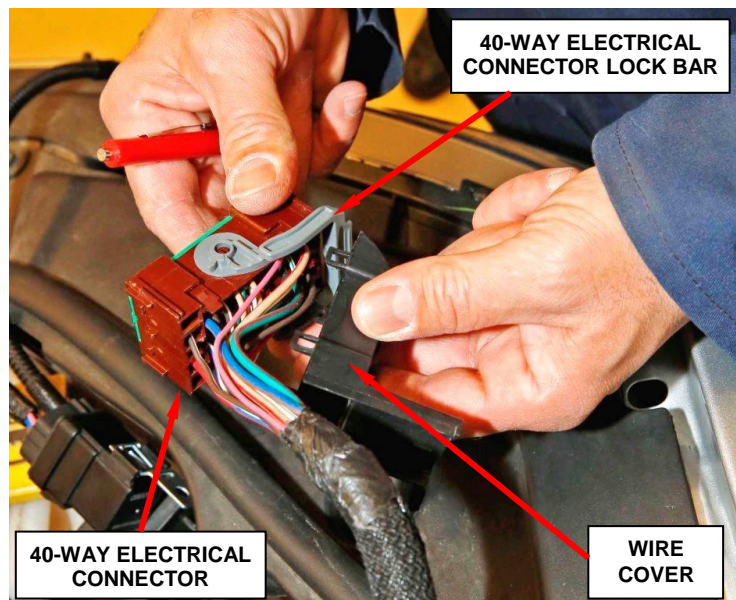

Figure 11 – 40-Way Electrical Connector Wire Cover
14. Carefully remove and save the 40-way electrical connector wire cover located on the wire side of the connector (Figure 11).